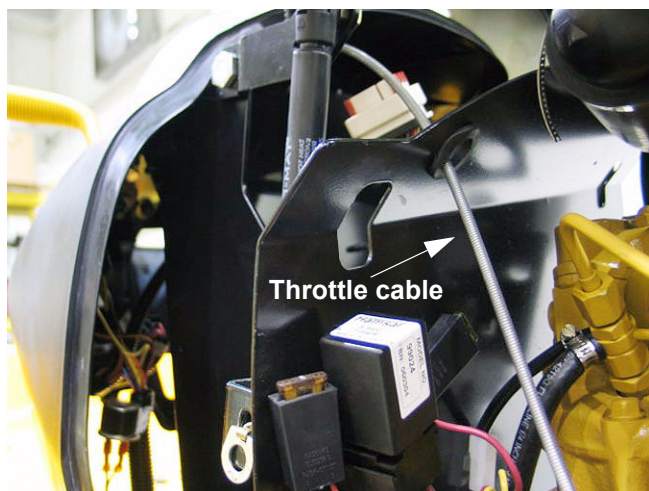

Figure 1.22
- 1.22. Route the control cables as the dash panel is lowered into place. The throttle cable passes through the grommeted hole at the top right corner of the lower heat shield. See Figure 1.22.